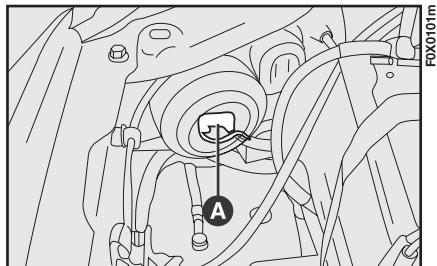

fig. 120
- disconnect connector A-fig. 120;